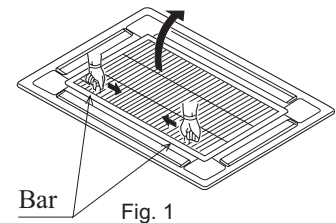

Fig. 1
- ① Push in the bar on inlet grill and lift it up. (Refer to Fig. 1)